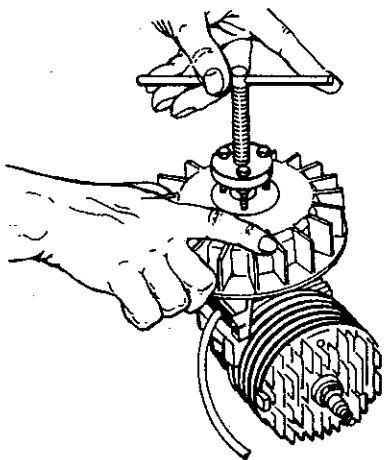

Figure 13
- (2) On flywheels that have cored holes, use flywheel puller number 670215. A set of 3 self-tapping screws are included with the puller. (See Figure 13.)